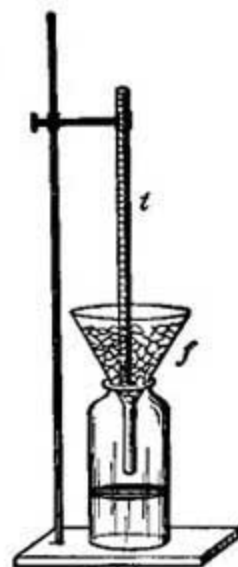

FIG. 10.—Determining the lower fixed point of a thermometer.
6. The Thermometer. The modern thermometer consists of a glass tube at the lower end of which is a bulb filled with mercury or colored alcohol (Fig. 8). After the bulb has been filled with the mercury, it is placed in a beaker of water and the water is heated by a Bunsen burner. As the water becomes warmer and warmer the level of the mercury in the tube steadily rises until the water boils, when the level remains stationary (Fig. 9). A scratch is made on the tube to indicate the point to which the mercury rises when the bulb is placed in boiling water, and this point is marked 212° . The tube is then removed from the boiling water, and after cooling for a few minutes, it is placed in a vessel containing finely chopped ice (Fig. 10). The mercury column falls rapidly, but finally remains stationary, and at this level another scratch is made on the tube and the point is marked 32° . The space between these two points, which represent the temperatures of boiling water and of melting ice, is divided into 180 equal parts called degrees. The thermometer